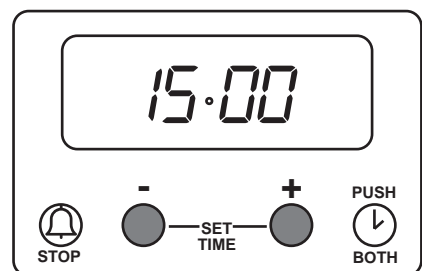

Fig. 12
To reset, press button (1) and (2) together. See Fig. 12.